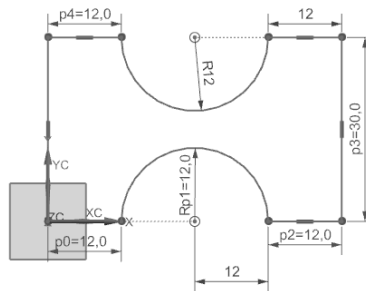

Figure 2-63 Final sketch for Tutorial 3
18. Press the ESC key twice to exit the **Profile** tool. The final sketch of the model is shown in Figure 2-63.